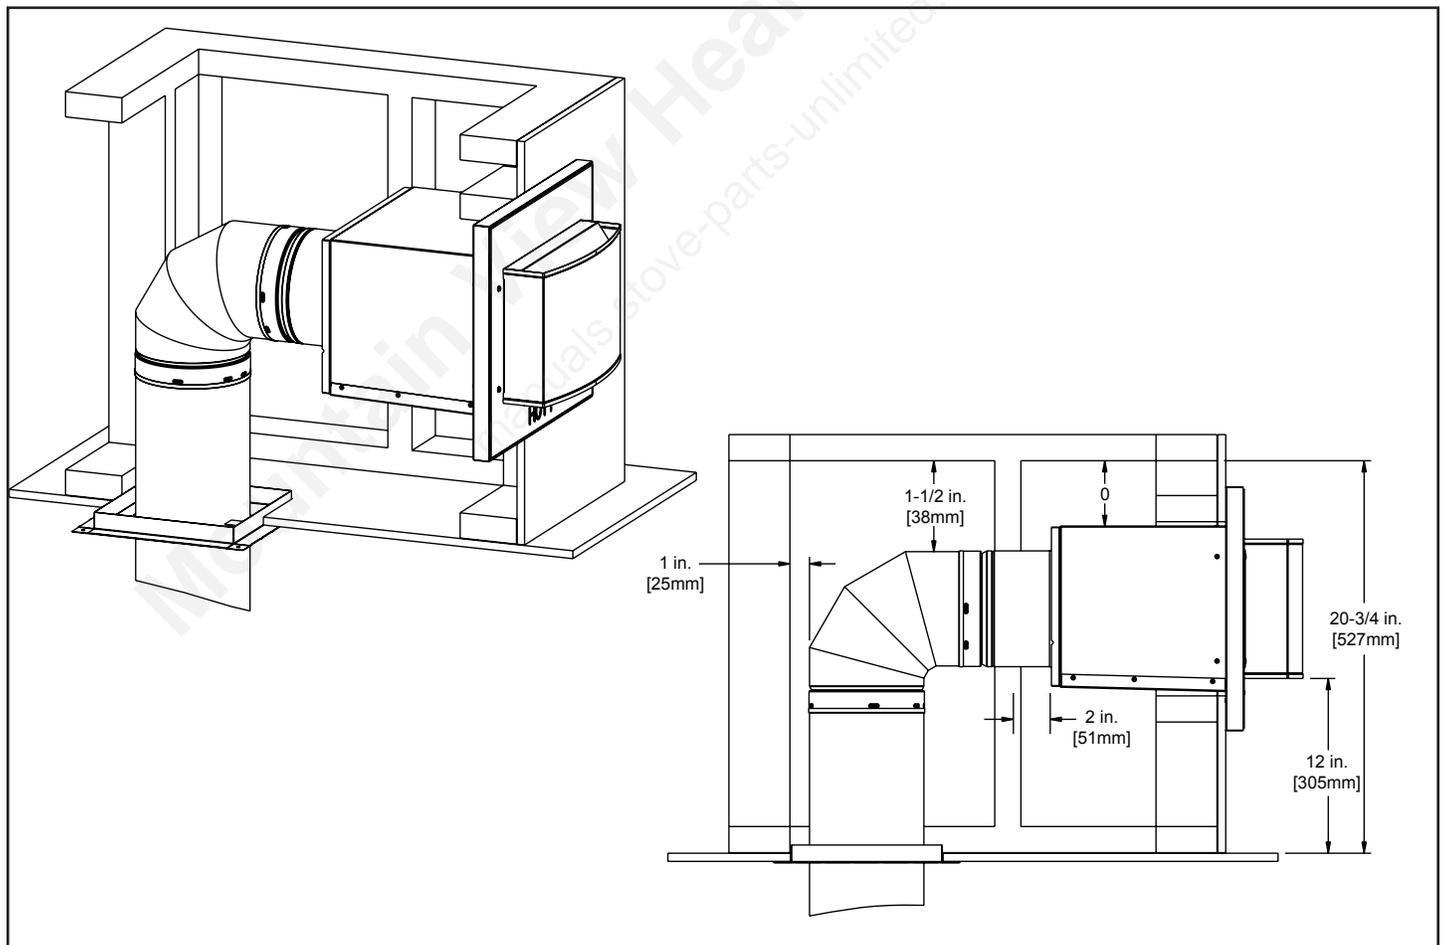

Figure 3.4
1. If the PVLPSL is going to terminate on a flat roof, an enclosure similar to the one shown in Figure 3.4 will need to be constructed.